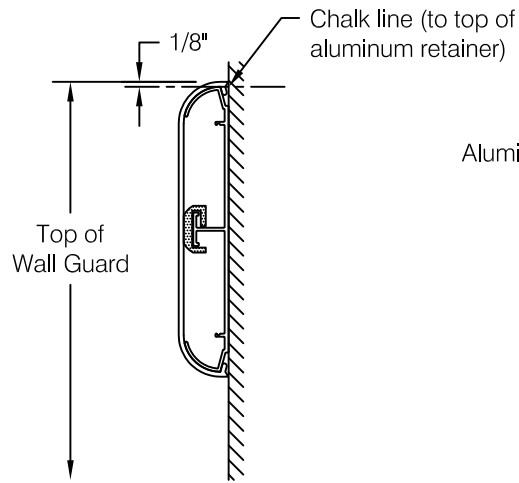

fig 1
- 2125C accent strips (5) and textured
- Step 1:** Determine top of wall guard and snap a chalk line 1/8" below to locate top of aluminum retainer, see **fig 1**.